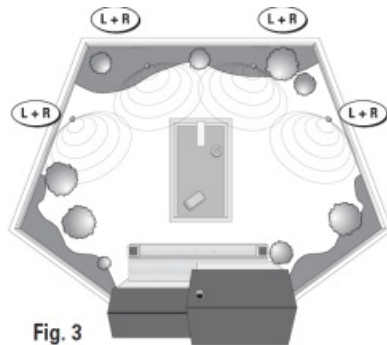

Fig. 3
- **Multiple Speakers, Distributed “Left plus Right” Channel Sound (Fig. 3)**
Multiple Speakers, Distributed “Left plus Right” Channel Sound (Fig. 3):